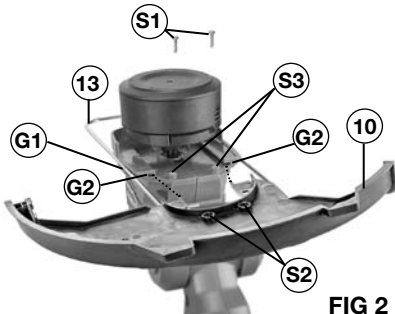

FIG 2
INSTALLING WIRE GUARD AND SAFETY GUARD (FIG 2)
1. Install the wire guard (13) through the grooves (G1) on both sides of the motor head as shown in FIG 2. Make sure the wire guard snugly fits into grooves.